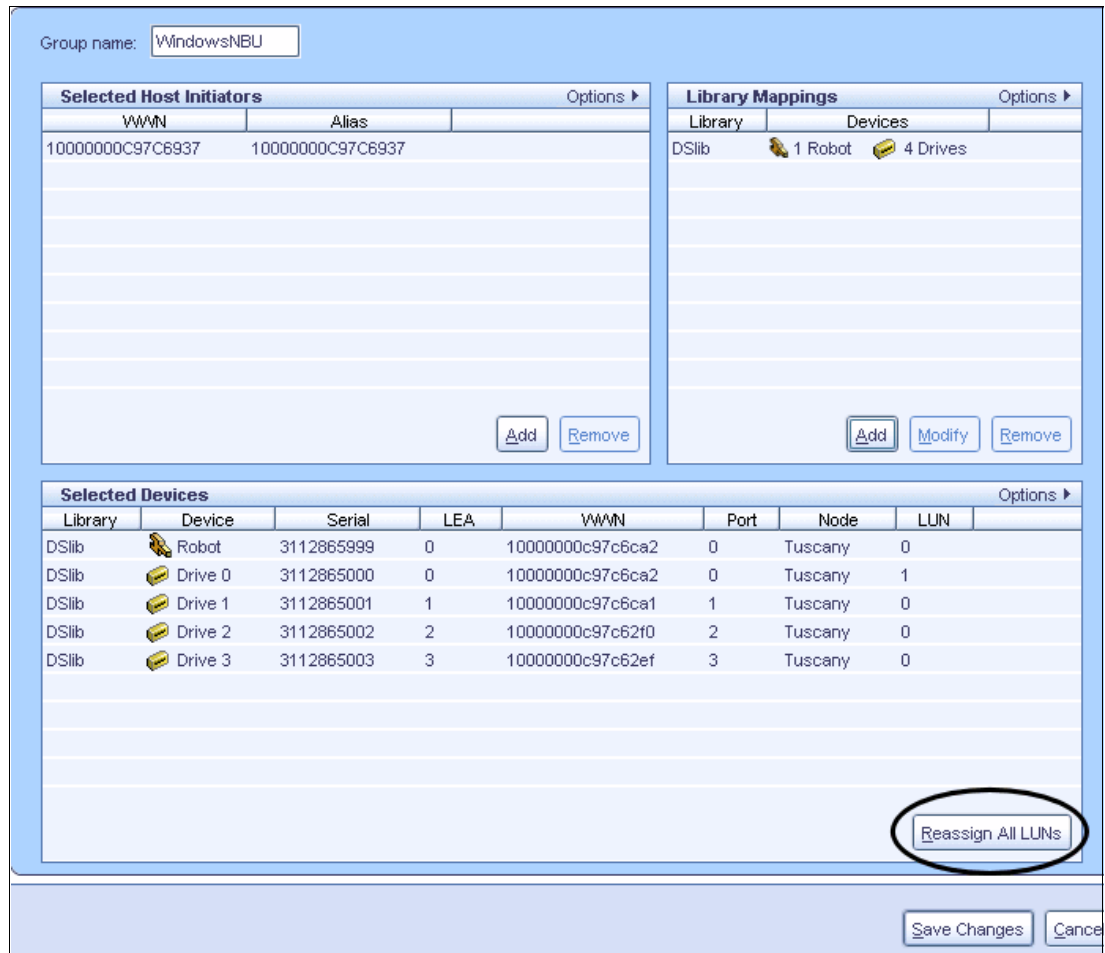

Figure 6-18 Reassign All LUNs in LUN Masking
1. Reassign the LUNs by clicking **Reassign All LUNs** at the bottom of the Selected Devices pane, as shown in Figure 6-18.